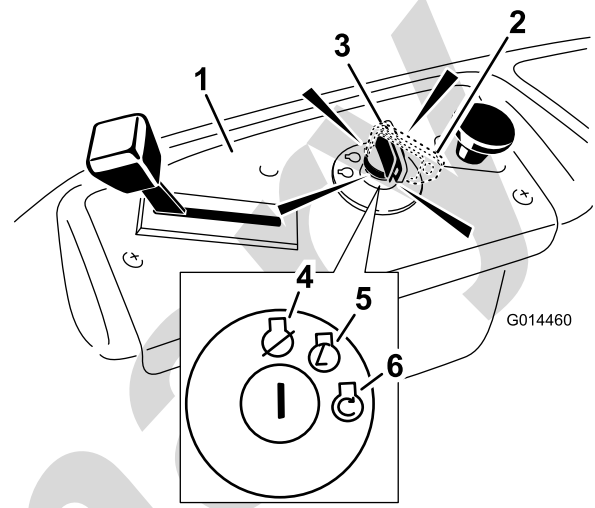

Figure 14
- Turn the ignition key to Start to energize the starter. When the engine starts, release the key (Figure 14).
2. Move the throttle lever to Fast (Figure 14).